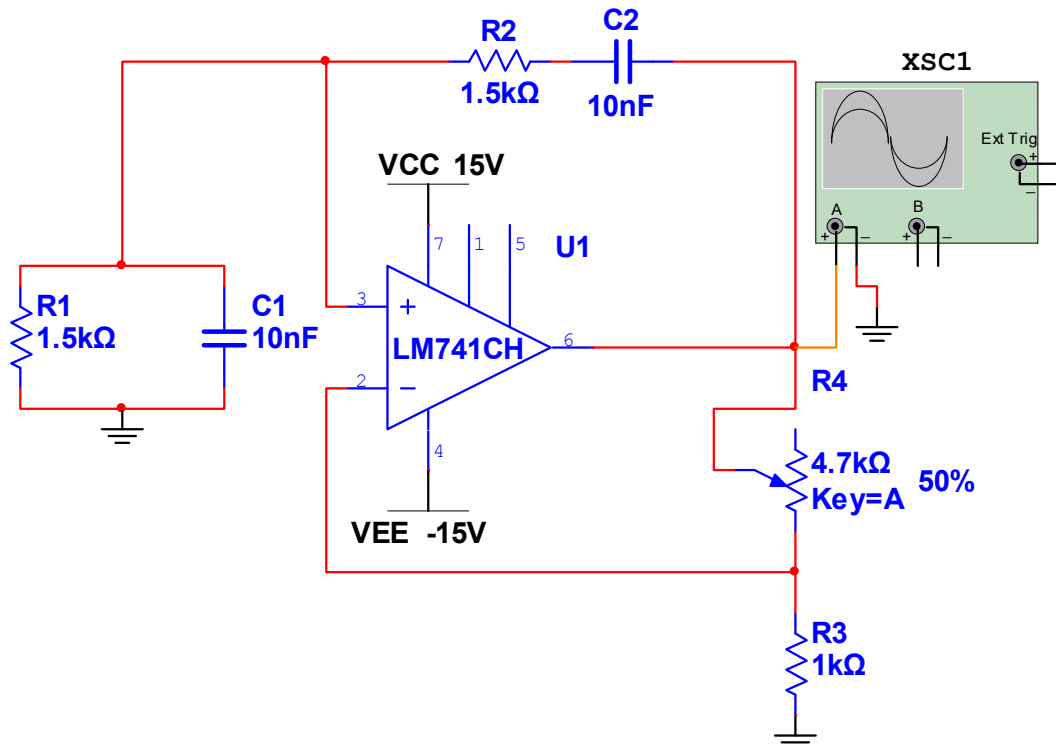
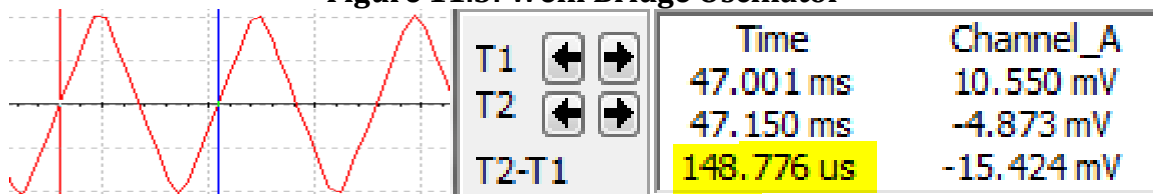

Figure 11.3: Wein Bridge Oscillator
Figure 11.4: Output waveform of Wein-Bridge Oscillator and Time Period Calculated as $T = 148.776 \mu\text{s}$
Wein Bridge Oscillator: It is one of the most popular type of oscillators used in audio and sub-audio frequency ranges (20 – 20 kHz). This type of oscillator is simple in design, compact in size, and remarkably stable in its frequency output. Furthermore, its output is relatively free from distortion and its frequency can be varied easily. However, the maximum frequency output of a typical Wien bridge oscillator is only about 1 MHz. This is also, in fact, a phase-shift oscillator. It employs either an amplifier with two transistors, each producing a phase shift of 180°, and thus producing a total phase-shift of 360° or 0° or an operational amplifier which gives of phase shift of 0°. In this experiment, Wein Bridge Oscillator is designed with Op-Amp LM741 as shown in Figure 11.3 and its output waveform is shown in Figure 11.4.
- ❖ *Connect the components as shown in Figure 11.3*